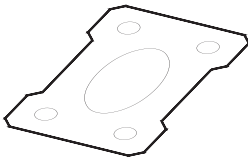

Fig. 17.20 First example – 2D outlines in 3D space. The outline in the **Isometric** view
- Place the drawing area in the **ViewCube/Isometric** view (Fig. 17.20).